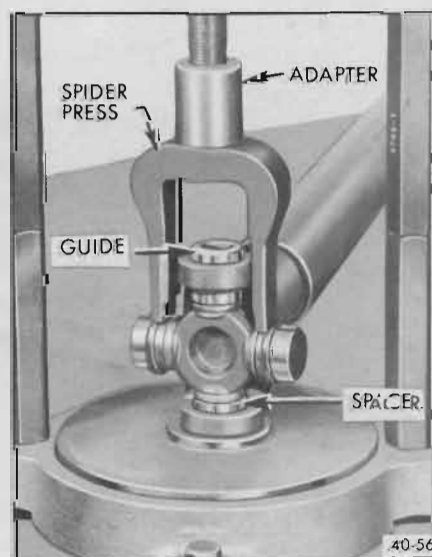

Figure 40-46—Removing Bearing with Guide and Spacer in Place
6. Install Spacer J-9522-5 adjacent to the bearing as in Step 4 and remove the bearing. See Figure 40-46.